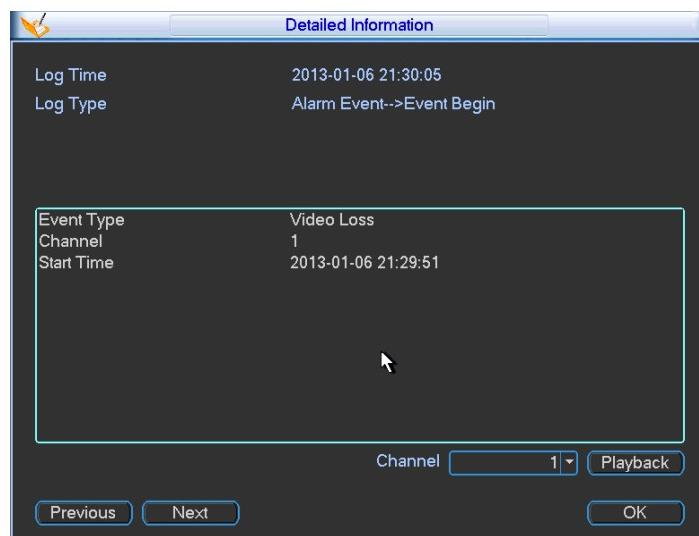

Figure 5-53
- Details: Click the Details button or double click the log item, you can view the detailed information. See Figure 5-53. Here you can use rolling bar to view information, or you can use Page up/Page down to view other log information. For the alarm event log such as video loss, you can click the Playback button at the bottom right corner to playback.